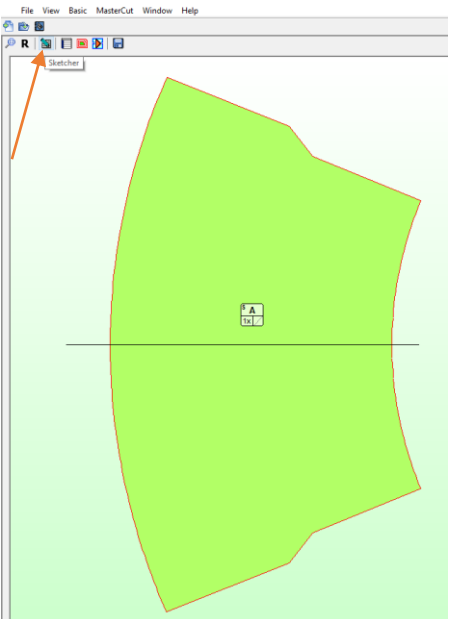

Figure 98
- 13. Next enter the MasterCut sketcher area by clicking on the sketcher pencil button  (Figure 98) or using shortcut  on the keyboard.